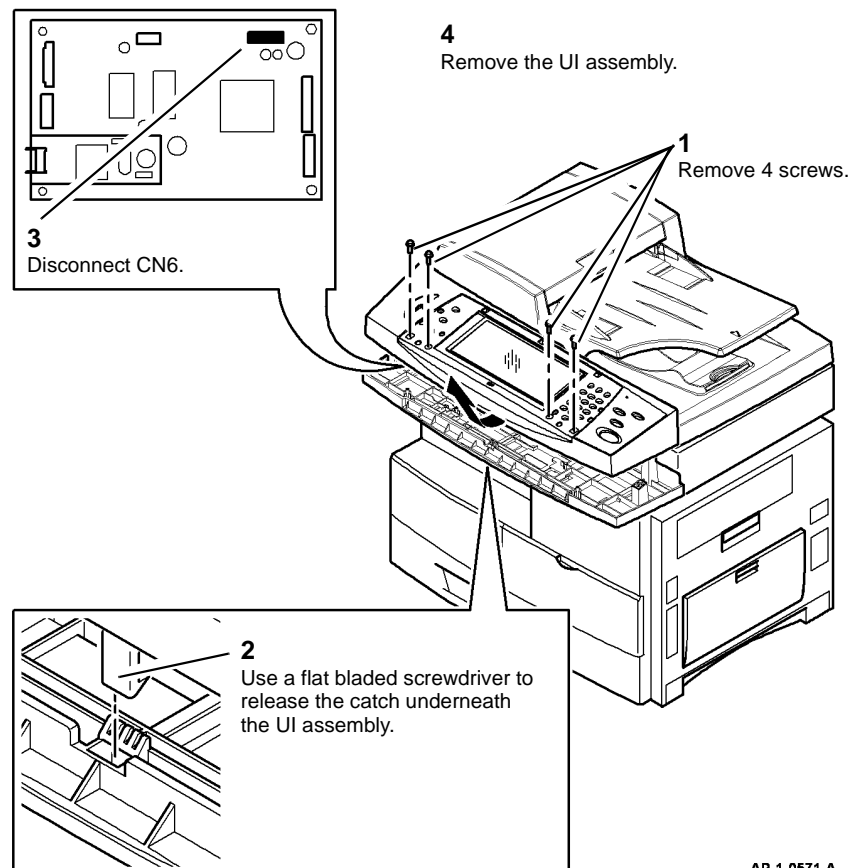

Figure 2 UI assembly removal
2. Remove the UI assembly, Figure 2.